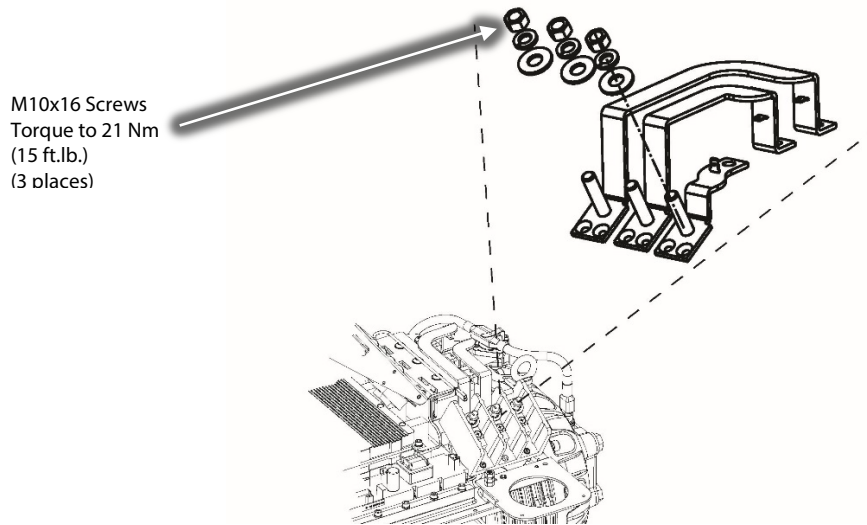

Figure 1 – Mains Input
5. Release the nine (9) captive screws that secure the Top Cover and remove the cover, taking particular care not to touch ANY components underneath.
6. Using an appropriately rated volt meter, check the DC bus bars for voltage level. If the voltage is above 5VDC, wait five (5) minutes and recheck until 5VDC or below is achieved.
7. Disconnect 3 phase mains input wiring. Refer to Figure 1 (Mains Input).
8. Disconnect the three (3) connectors of the Soft Start cable harness from the bus bars. Refer to Figure 1 (AC/DC Harness Connections).